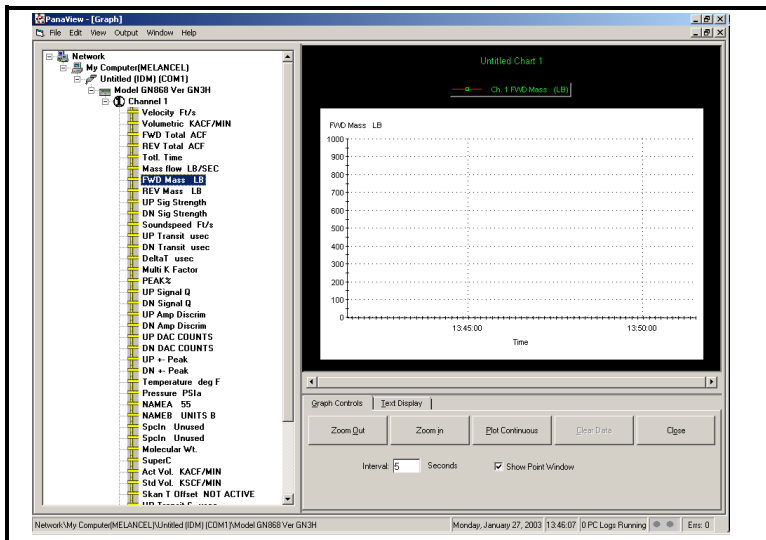

Figure 6-3: The Graph Window
3. Using the “Window” menu, as described on page 5-18, arrange the open windows in the desired format. For this discussion, Figure 6-3 below shows the “Graph” window in its maximized (full-screen) size.
2. When you have finished creating the desired graphs, click on the [Close] option button in the lower right pane of the “Graph” window (see Figure 6-3 on page 6-6).